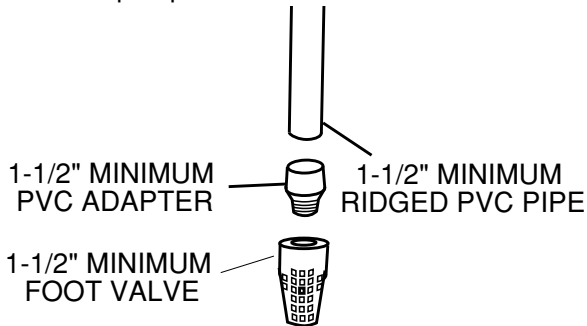

Figure 3
Lake Or Pond Installation (Figure 3)
- All dual voltage units come factory preset for 230 volts. (Figure 3)